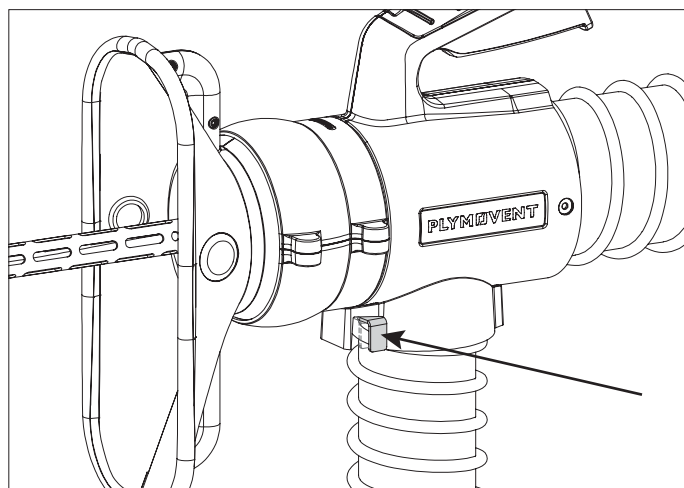

Fig. 4.11 Removing the coupler from the Grabber
- To remove the coupler, press the release button and gently slide out the coupler from the Grabber. Refer to fig. 4.11.